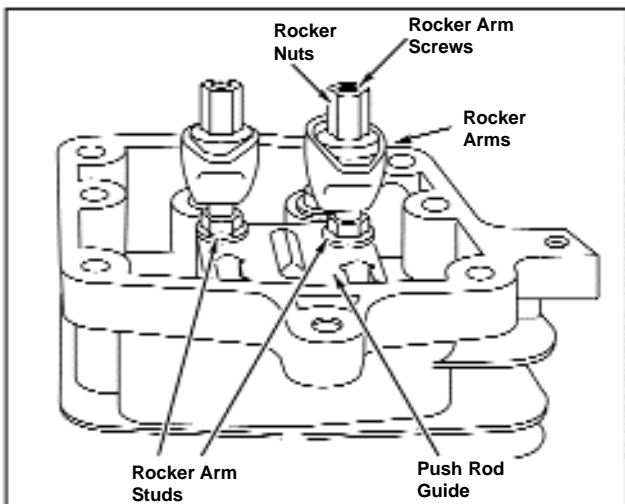

Figure 87 - Removing Rocker Nuts, Typical
1. If valve seats will be reconditioned, loosen rocker arm screws and remove rocker arm nuts, and rocker arms, Figure 87.